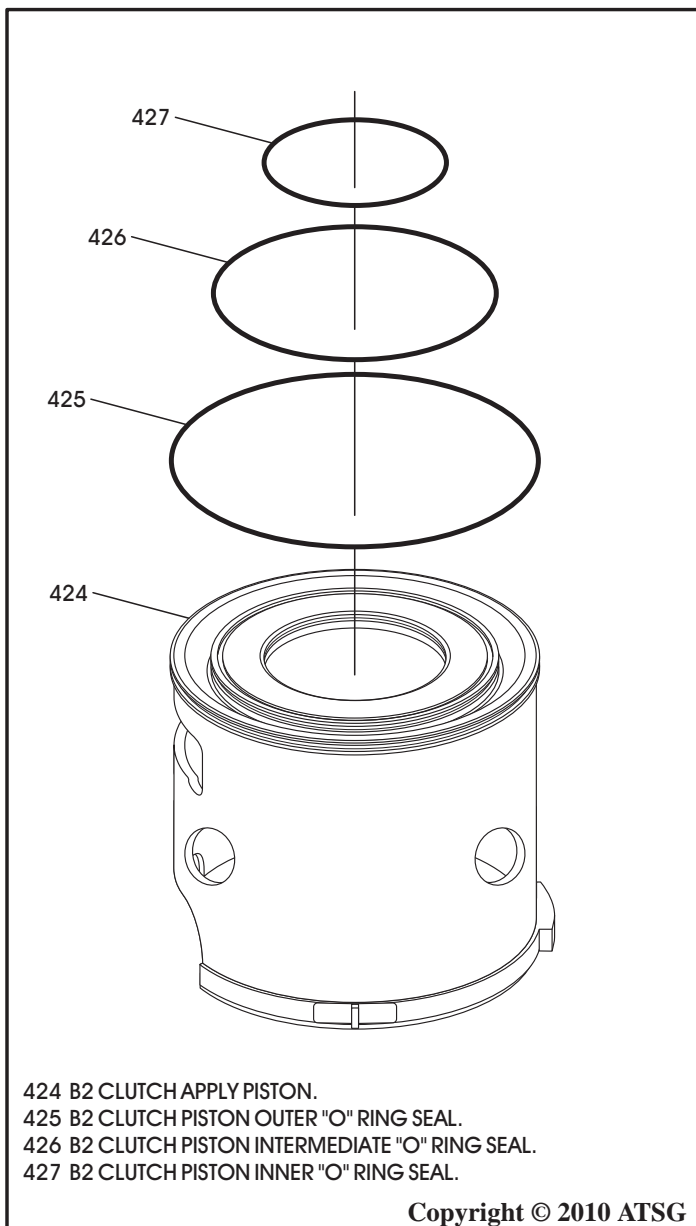

Figure 77
76. Remove and discard the three "O" ring seals on the B2 clutch piston, as shown in Figure 77.